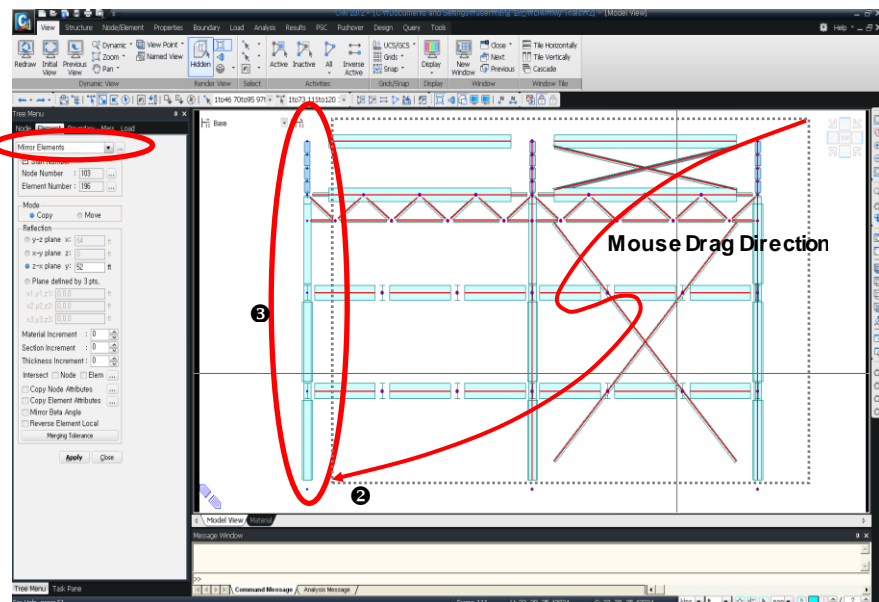

Figure 2.15 Selection of Target Elements of Mirror Elements
4. Select **Mirror Elements** in the functions selection field (Fig.2.15–①).
6. Drag the mouse from right to left as shown in Fig.2.15–② to select the nodes and elements to be duplicated.
When selecting members for duplication, exclude the elements contained in the plane of symmetry (Fig. 2.15–③). When using  **Select Window**, only the elements completely included in the window are selected by dragging the mouse from left to right, and the elements intersecting the boundary of the window are also selected by dragging the mouse from right to left. For this reason the mouse is dragged from right to left.